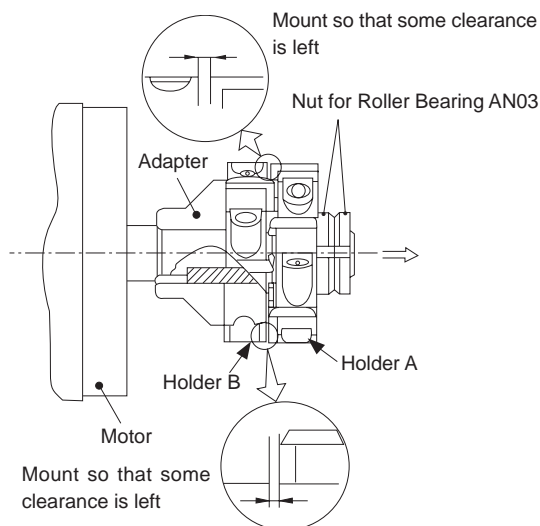

Fig.13
- (2) Remove the Nuts for Roller Bearing shown in Fig.13 using the Spanner and Hook Spanner included in the accessories, and then extract the Holders A and B in the direction of the arrow.
- (3) Mount the Holders A and B in the proper direction (so that projected portions of the Holders A and B face each other), and then firmly tighten the Nuts for Roller Bearing using a Hook Spanner. (Fig.13)